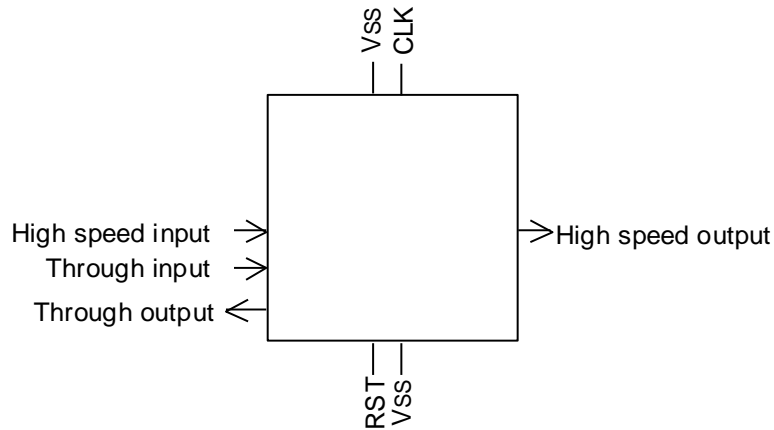

Figure 7-3 Critical Signal Pinout Example 1
- ① Do not place clock and reset pins, that are vulnerable to noise, close to the output pins, but place them close to the power supply pins. (Figure 7-3)
- ③ Place the high-speed input and output pins in the middle of the IC (package) side. (Figure 7-3)
- ④ When the delay from an input pin to an output pin is hard to meet the customer's specification, place these input and output pins close to each other. (Figure 7-3)